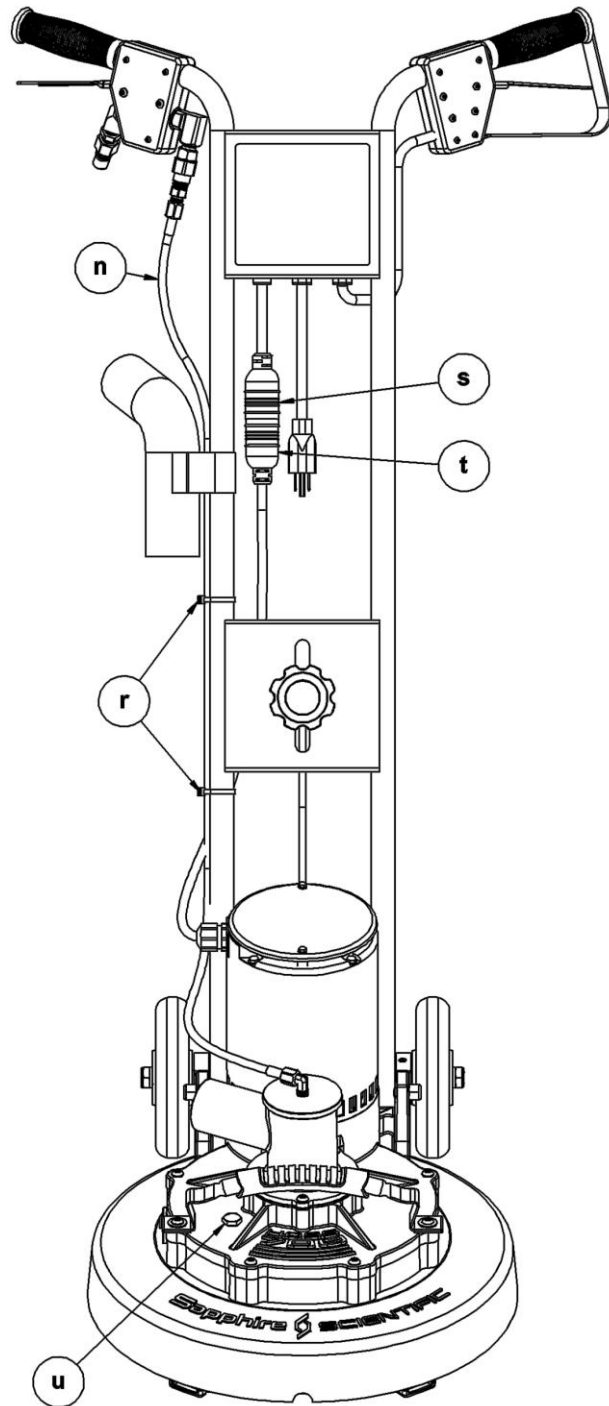

Figure 7.
6. Attach the Solution Line 2 (Figure 7.)
Attach the other end of the blue solution line (n) to the connector fitting on the handle assembly as shown in Figure 7.
Use the supplied zip ties (r) to secure the solution line to the handle assembly as shown in Figure 7.
7. Attach the Power Cord Wires (Figure 7.)
Connect the Twist-Lock power cord connectors (s), (t) by inserting the plug into the receptacle as shown in Figure 7 and turning slightly until the two connectors “lock” together.
8. Install the Vent Plug (Figure 7.)
Replace the temporary gear box plug (u) as shown in Figure 7 with the supplied vent plug (v).